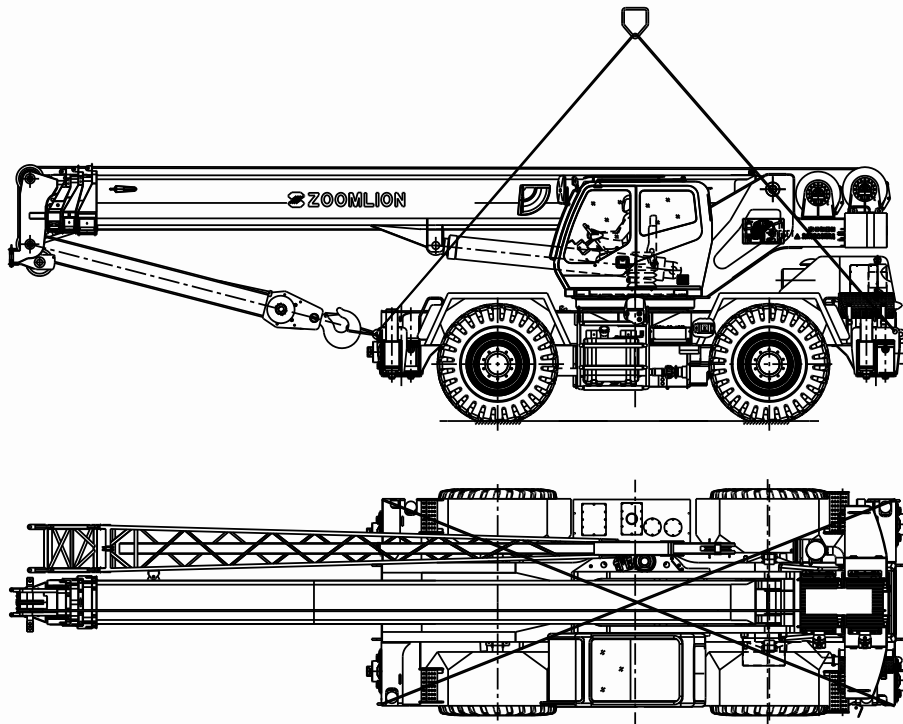

Figure 08 – 1 Crane Lift Points
(1) Train or Ship
- (b) The positions to lift the crane are in the Figure 08 – 1. Follow applicable rules while you lift.